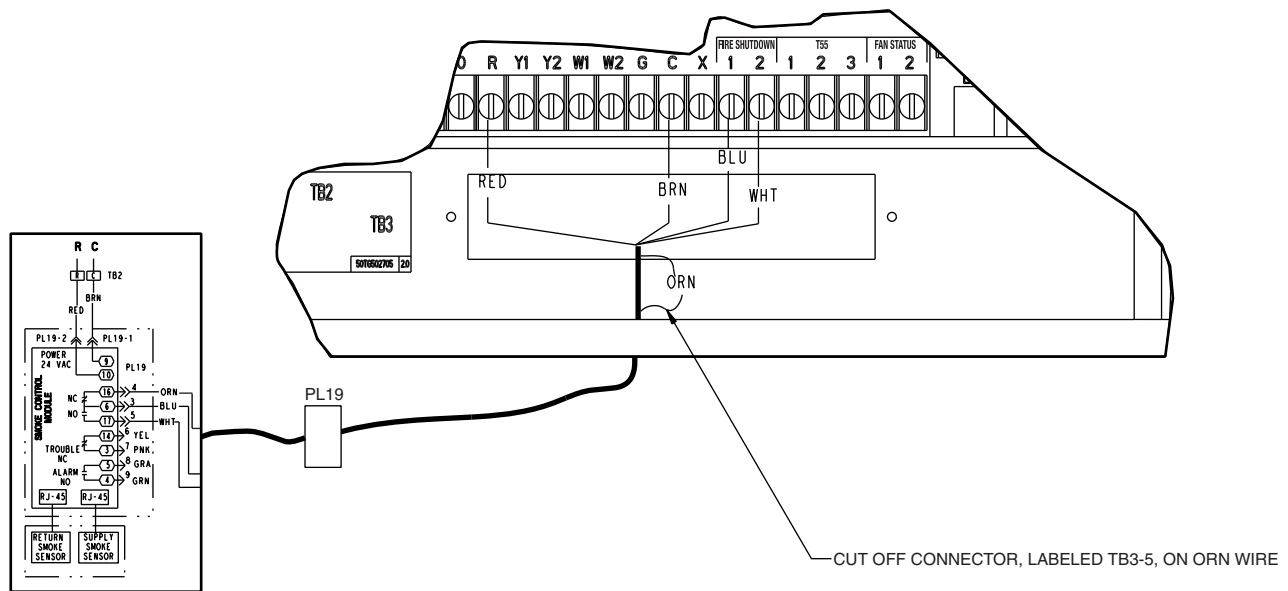
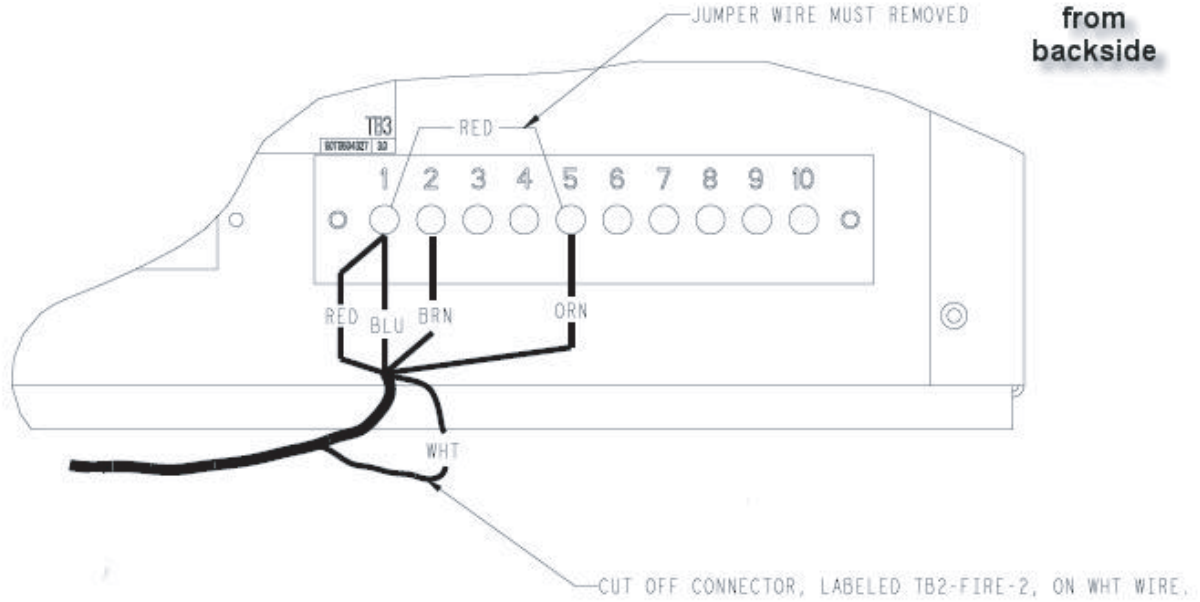

Fig. 6 – Return and Supply Air Smoke Detector Wiring on ComfortLink Units
Fig. 7 – Smoke Detector Wiring on Electro-Mechanical Control Units
15. Feed wires through snap bushing and connect to appropriate terminals as shown in Fig. 6 for *ComfortLink*™ units or Fig. 7 for Electro-Mechanical units.
16. Connect wires to terminal strips as shown in Fig. 6 for *ComfortLink*™ units or Fig. 7 for Electro-Mechanical Units.